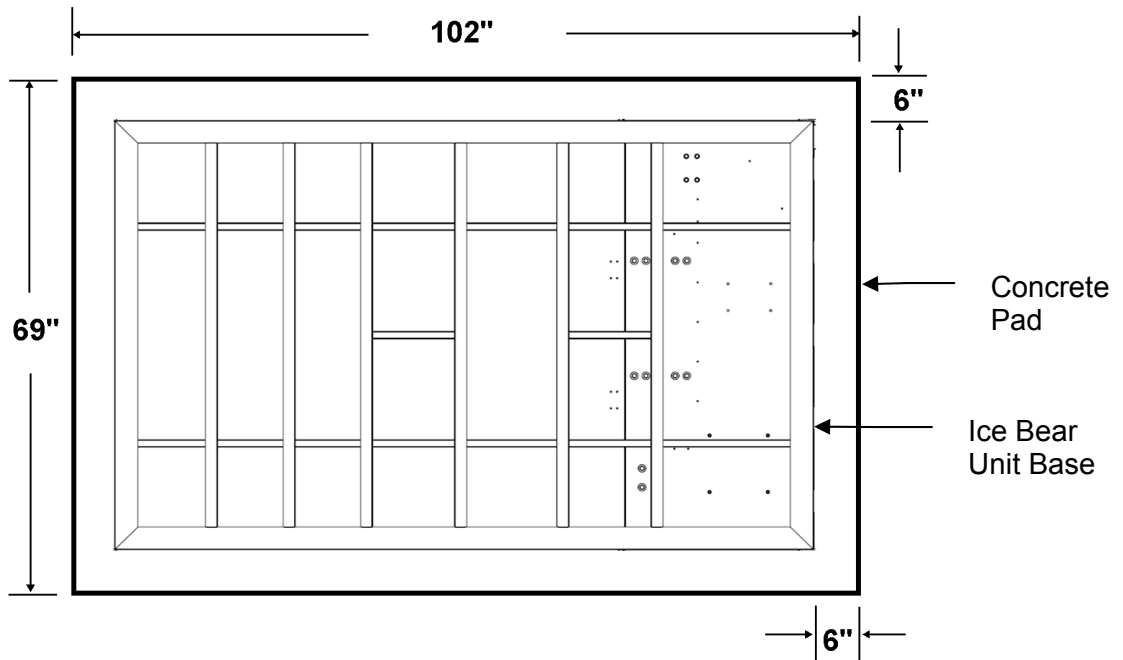

Figure 19 – Minimum Recommended Concrete Pad Dimensions
- See Figure 19 for minimum recommended pad dimensions.